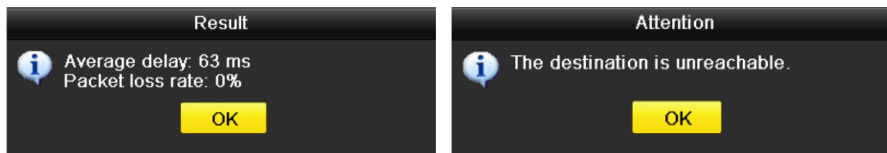

Figure 11-30 Testing Result of Network Delay and Packet Loss
Step 4 Click **Test** button to start testing network delay and packet loss. The testing result pops up on the window. If the testing is failed, the error message box will pop up as well. Refer to Figure 11-30.